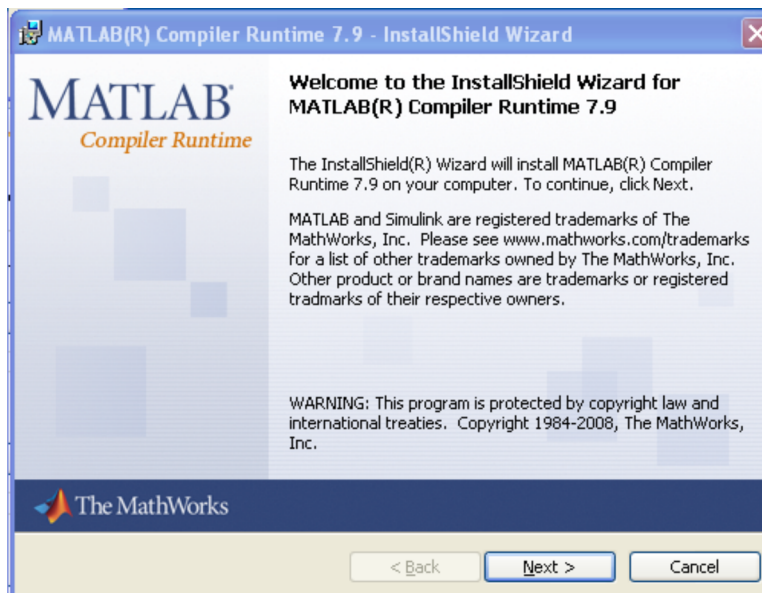

Figure 3. MCR Installer GUI
1. Run `MCRInstaller.exe` on the machine you use to run your simulations. This brings up an installation wizard, which looks similar to Figure 3. Click *Next* to continue.